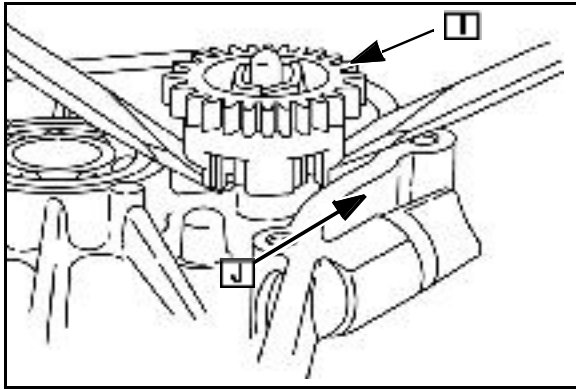

Fig. 16
9. Remove governor gear ([I] Fig. 16) from cylinder cover using two screw drivers.